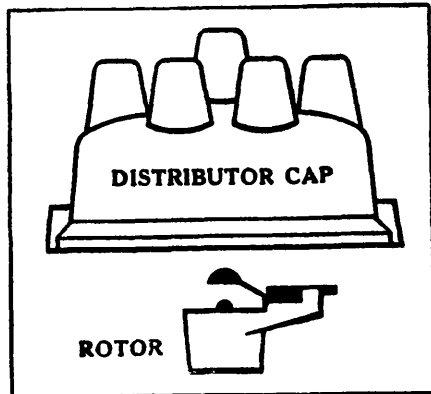

Fig. 2
2. Remove distributor cap and rotor (Fig. 2).